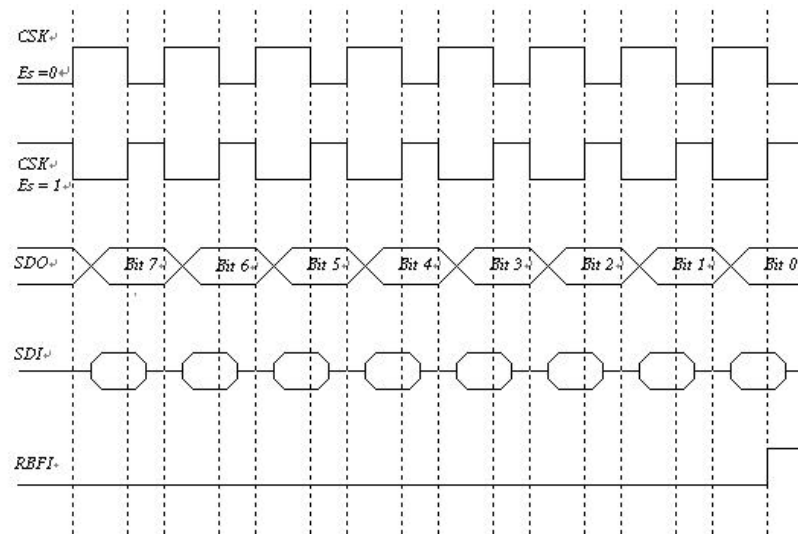
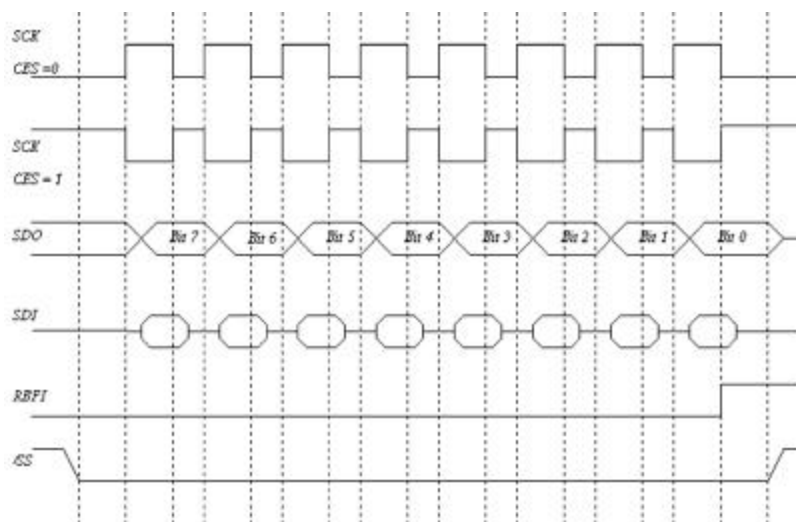

Fig. 13 SPI Mode with /SS Disable
Fig. 14 SPI Mode with /SS Enable
- Timing is shown in Fig.13 and 14.
- Timing is show in Fig.13 and 14
- Timing is shown in Fig.13 and Fig. 14.
The edge of SCK is selected by programming bit CES. The waveform shown in Fig.13 is applicable regardless of whether the EM78P451 is under master or slave mode with /SS disabled. However, The waveform in Fig. 14 can only be implemented in slave mode with /SS enabled.